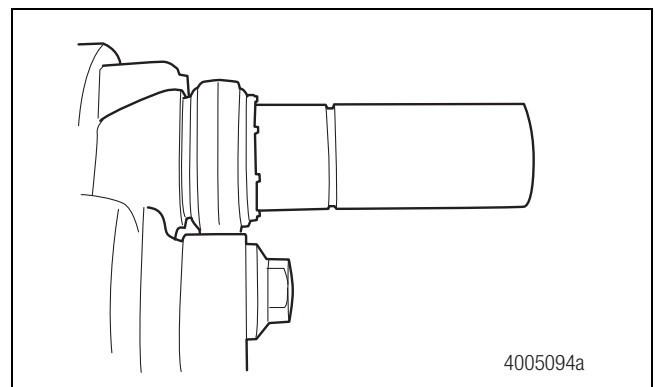
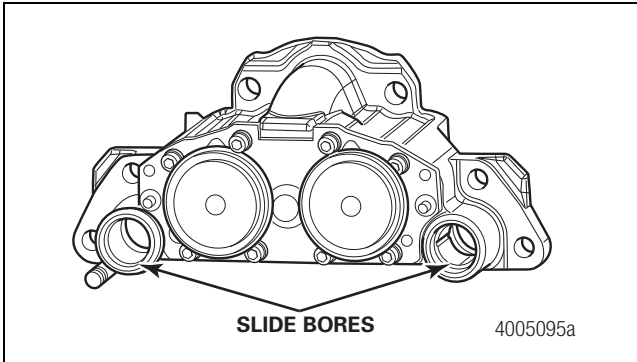

Figure 6.51
Figure 6.52
1. Apply grease to the slide pins and slide bores in the housing assembly. Figure 6.51 and Figure 6.52.